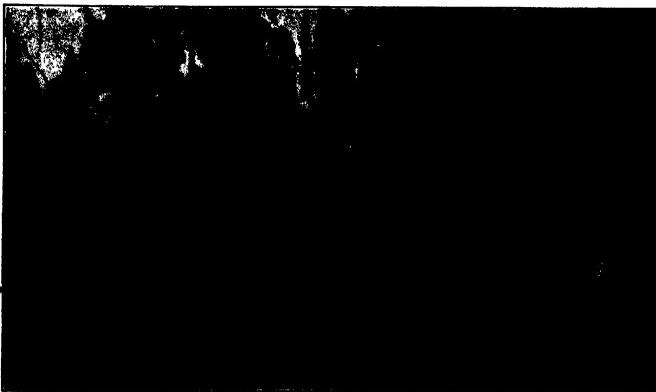

Fig. 26. Hauling Big Logs by Donkey Engine.
*The skidway.* By the skidway in the Puget Sound region is meant a corduroy road. This is constructed of trunks of trees ranging from a foot to two feet in diameter. These are "rossed," that is, stripped of their bark and laid across the road, where they are held in place by pegs driven into the ground, and by strips spiked upon the tops of the logs. If possible they are laid in swampy places to keep the surface damp and slippery. At turns in the road, pulleys are hung, thru which the hauling cables pass. The skidway runs to the railway siding or water's edge. Over these skidways the logs are hauled out by various means. Formerly, "strings" of oxen or Percheron horses were used, but they are now largely superseded by some form of donkey engine, Figs. 26 and 29. These are placed at the center of a "yard."